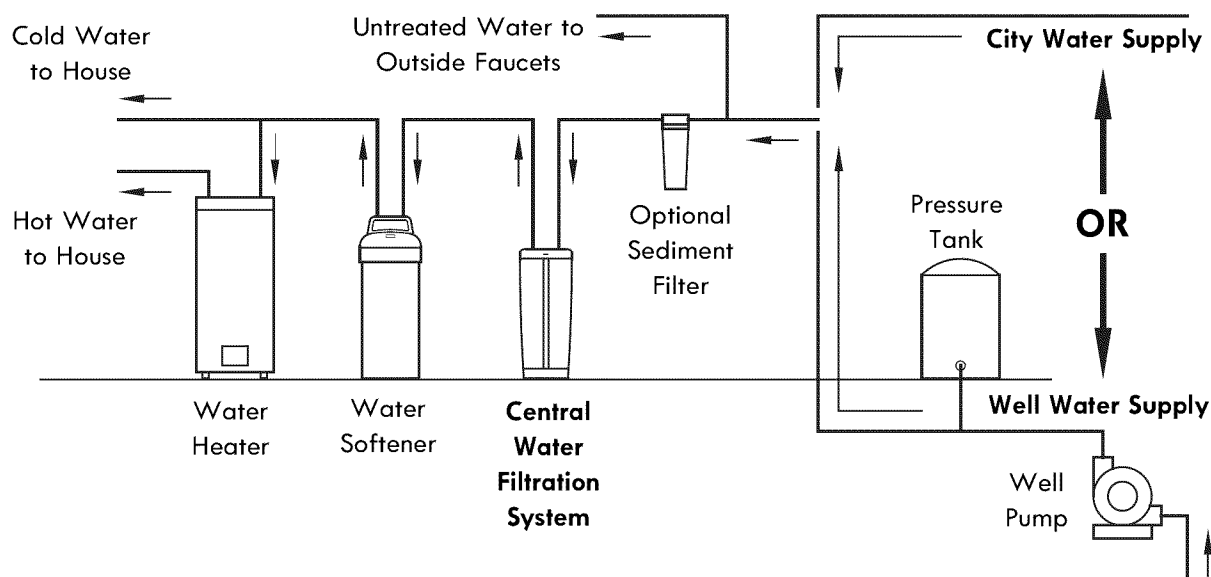

Figure 2
- Do not install the Central Water Whole Home Filtration System on a hot water line (See Figure 2 below).
- Install the Central Water Whole Home Filtration System between the home's incoming water supply and the water softener, if one is being used (See Figure 2).